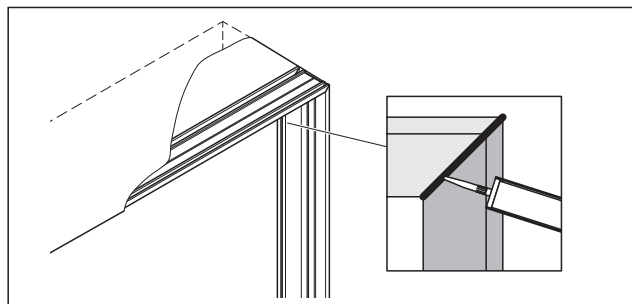

Fig. 24 Siliconize the profile edges and impact areas from the inside
9. If the sound insulation requirements are high, siliconize the profile edges and impact areas from the inside (Fig. 24).